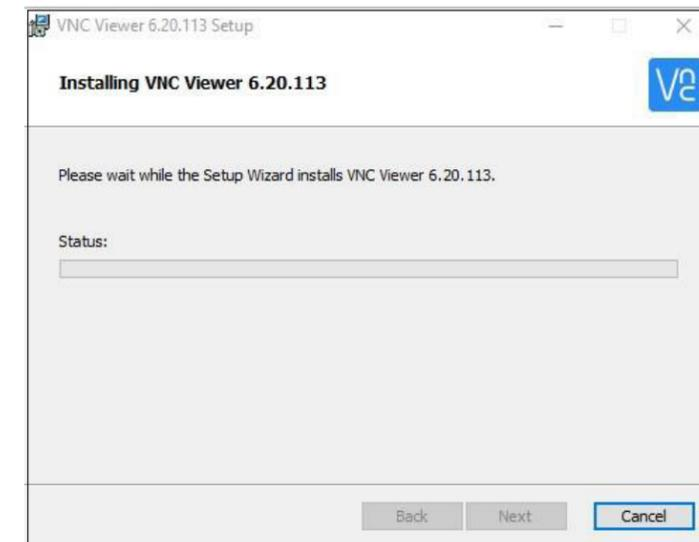

Figure 70. Install VNC Viewer
1. Download and install the VNC Viewer from VNC Connect/Real VNC (Figure 70): <https://www.realvnc.com/en/connect/download/viewer>.